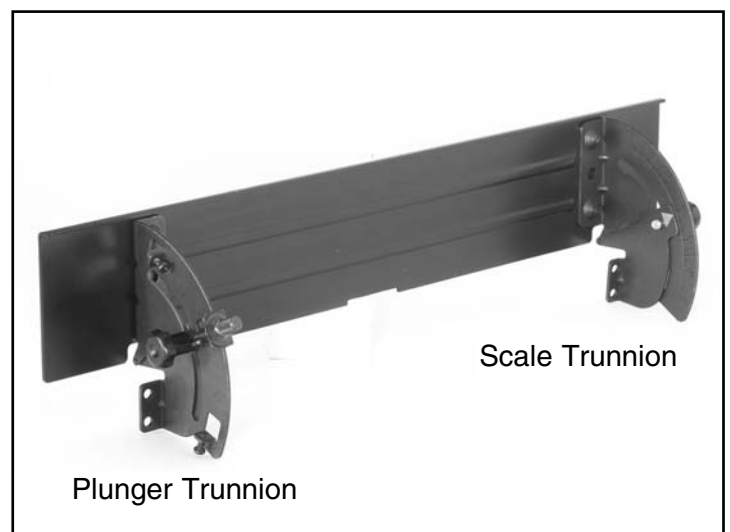

Figure 3. Trunnions mounted to fence.
3. Ensure that the trunnions are mounted tight and the screw heads are below the surface of the fence. Your assembly should look similar to **Figure 3**.